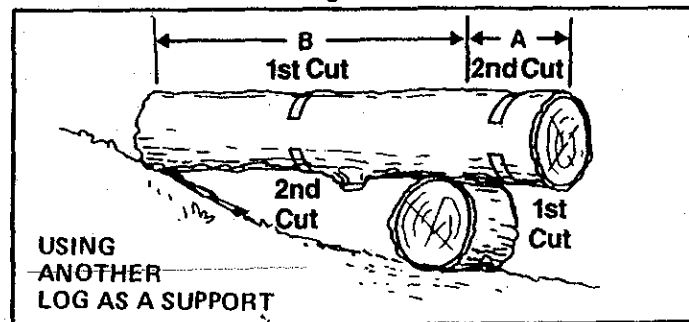

Figure 28
4. BUCKING — USING ANOTHER LOG AS A SUPPORT (Figure 28):